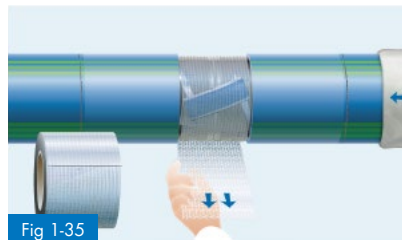

Fig 1-35
- Masking of the electrical connection with duct tape (Figure 1-35)